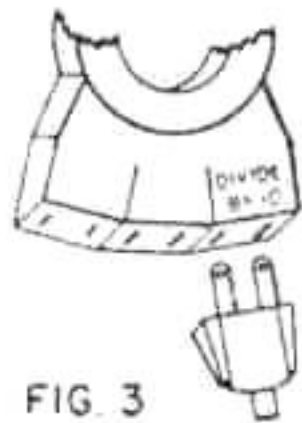

FIG. 3
(1) Plug line cord of appliance or apparatus to be measured into the "DIVIDE BY 10" outlet of Model 101, (Fig. 3).
(2) With Model 101 plugged into wall outlet, snap Model 10C through Model 101—take reading and divide by 10.